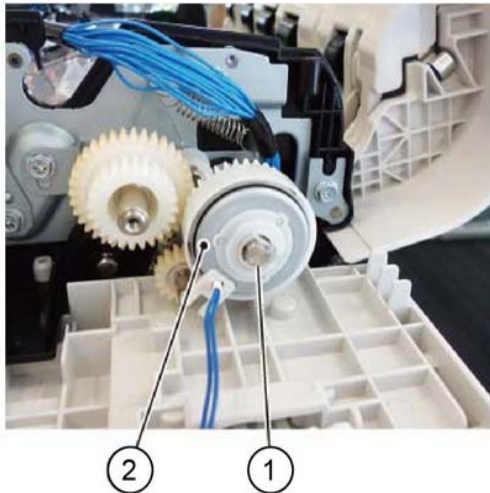

Figure 3 T/A clutch removal
10. Remove the DADF T/A clutch, **Figure 3**:
- a. Remove the E-clip (1).
- b. Remove the DADF T/A clutch (2).